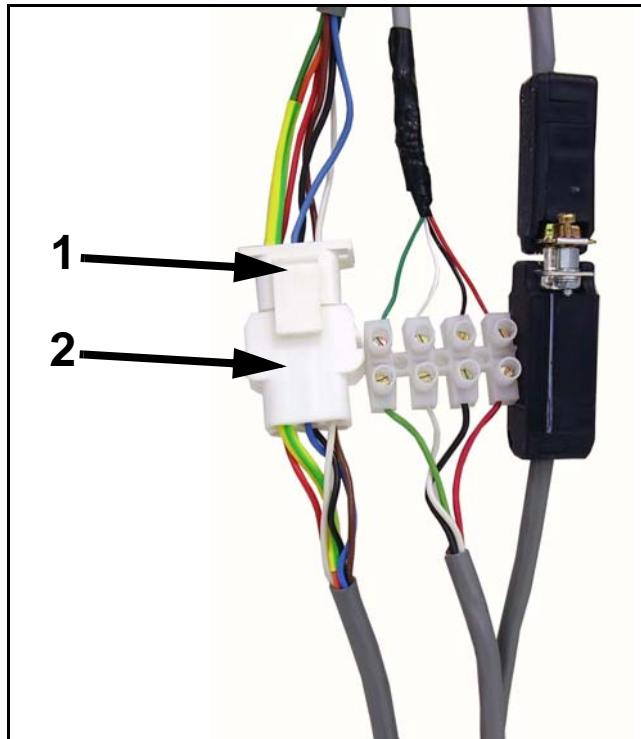

Figure 2-14. Bucky Cables
- 1 Connect wallstand bucky cable (1 in Figure 2-14) to system bucky cable (2).